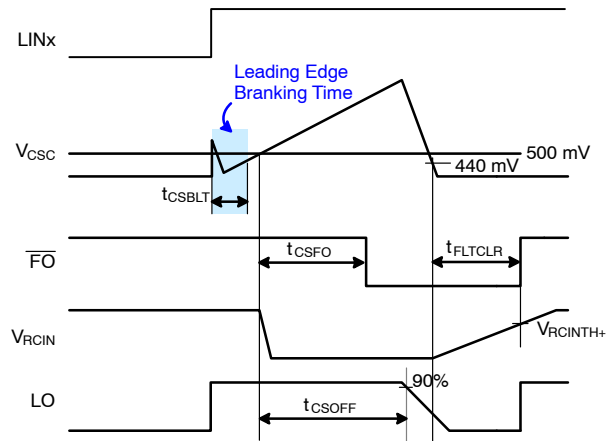

Figure 43. R_{CIN} and Fault-Clear Waveform Definition
Figure 43 shows the waveform definitions of RCIN, \overline{FO} , and the low-side driver; which uses a soft turn-off method when an under-voltage condition of the low-side gate driver supply voltage (V_{DD}) or the current-sense pin (CS) recognizes a fault. If a fault condition occurs, the \overline{FO} Pin is internally pulled to COM and all outputs (HO1, 2, 3 and LO1, 2, 3) of the gate driver are turned off. Low-side outputs decline linearly by the internal sink current source ($I_{SOFT} = 40 \text{ mA}$) for soft turn-off, as shown in Figure 43.